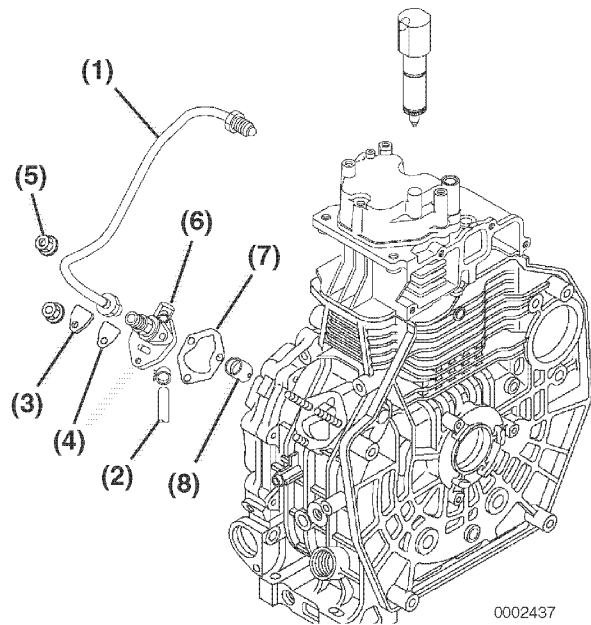

Figure 7-15
1. Clean the areas around the fuel injection pump (Figure 7-15, (6)) and fuel injector.
3. Remove the high-pressure fuel injection line (Figure 7-15, (1)). Use care not to bend the line.
4. Remove the fuel supply line (Figure 7-15, (2)).
6. Remove the three nuts (Figure 7-15, (5)) fastening the fuel injection pump into the cylinder block.
7. Remove the inspection cover (Figure 7-15, (3)) and gasket (Figure 7-15, (4)).
9. Remove the shim(s) (Figure 7-15, (7)). Use care not to bend or damage the shim(s).
- Remove the fuel injection pump tappet (**Figure 7-15, (8)**) from the crankcase. The tappet may stay in the cylinder block. You can remove it with your finger. Inspect the face or roller end of the tappet for damage or abnormal wear. See *Tappet* on page 6-50.